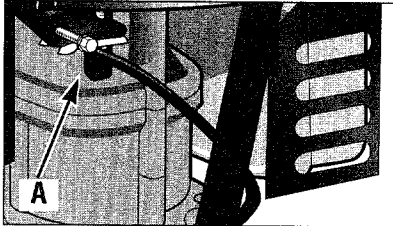

Figure 3: Do not adjust or tighten the factory-set engine governor screw (A).
IMPORTANT: DO NOT TIGHTEN THE ENGINE GOVERNOR SCREW (A) SHOWN IN FIGURE 3. THIS SCREW IS FACTORY-ADJUSTED FOR PROPER ENGINE OPERATION.